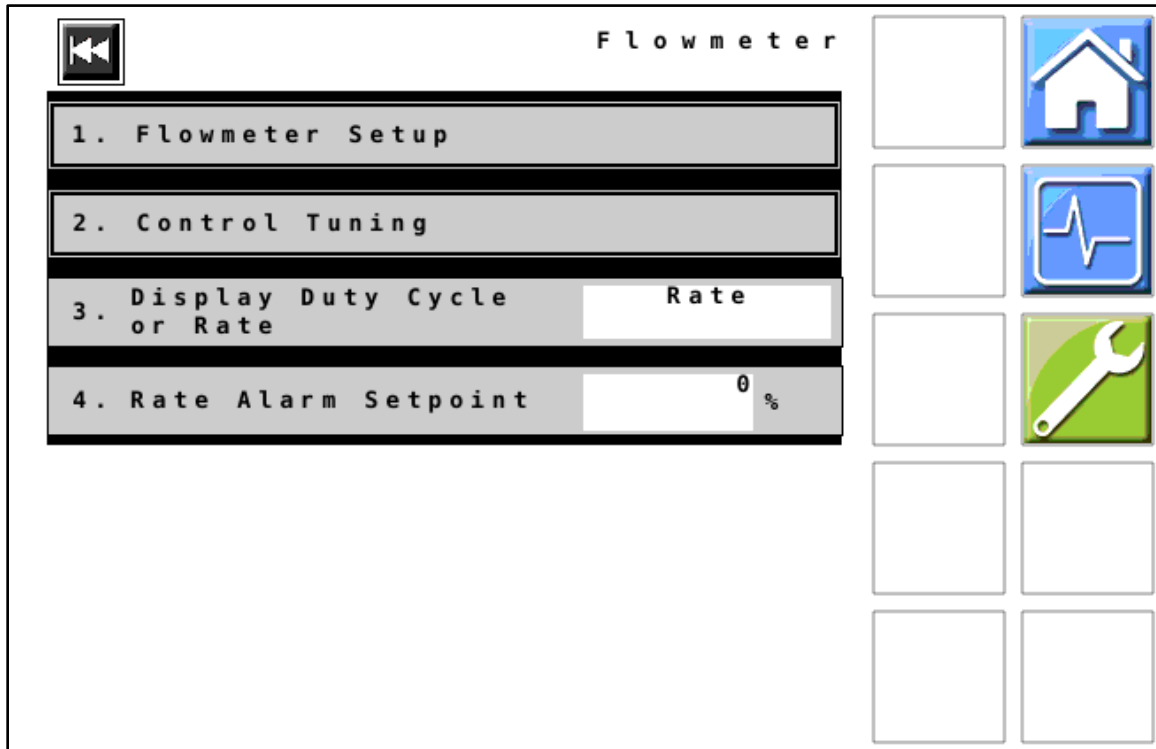

Figure 17 — Flowmeter
29. *Figure 17:* Verify that all values displayed on your unit match those shown here. Change values if necessary.